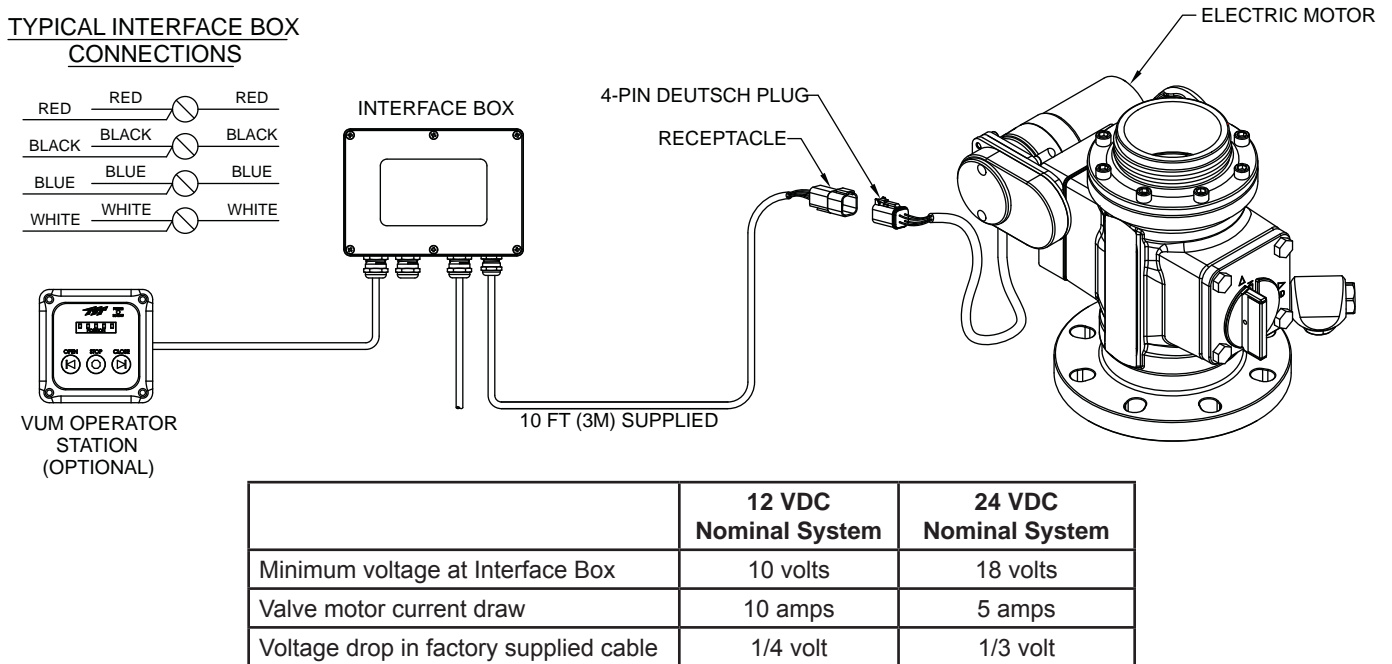

Figure 10: Interface Box Connections
Red (+) and black (-) wires of the Valve Interface Box must be connected to a 12 or 24 VDC protected circuit from the power distribution center. To control the valve from a TFT RC monitor operator station, the valve's Blue and White communication wires must be connected to the monitor's blue and white wires as described in section 2.0 of LIY-500 RCE MONITOR ELECTRICAL CONTROLS SUPPLEMENT. Figure 10 shows the IVUM RC typical interface box connections.
Valve control motor may fail to operate if the voltage drop in the cable is excessive. To avoid this situation, do not lengthen the factory supplied motor cable. Power cable selection is critical. Voltage supplied to IVUM Interface Box should not fall below the value listed in figure 10 while valve is in operation.
3. Once movement is stopped, manually turn override knob in opposite direction while input is active. If knob can be turned, then voltage supply is adequate. If knob can't be turned and motor continues to operate, then the current limit was not reached because the voltage supply or wiring is below the minimum voltage listed in figure 10.